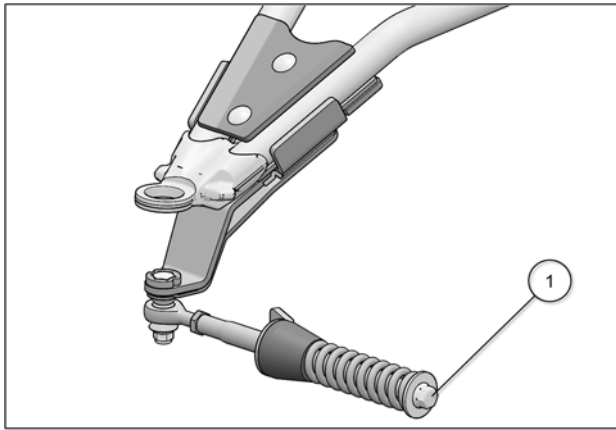

Fig. 23
14. Verify that spring assembly bolt (1) is tightened to the recommended torque specification: 75 N•m [55 lb•ft]. Refer to Fig. 23